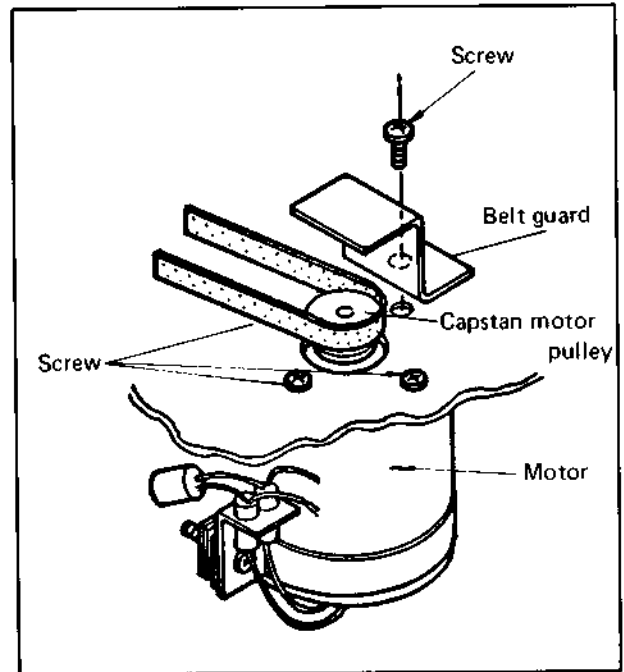

Fig. 5-20 Capstan motor replacement
1. Remove the four screws and belt guard from the chassis as shown in Fig. 5-20.